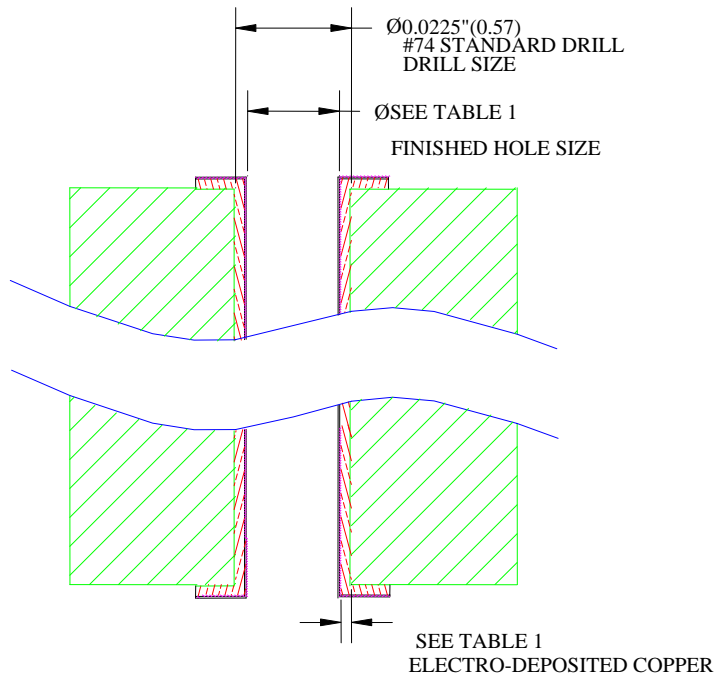

FIGURE 3, Compliant pin signal Plated Through Hole
- 3.1.6 For compliant pin applications the specified drilled hole size and copper thickness is mandatory, see table 1 and figure 3.